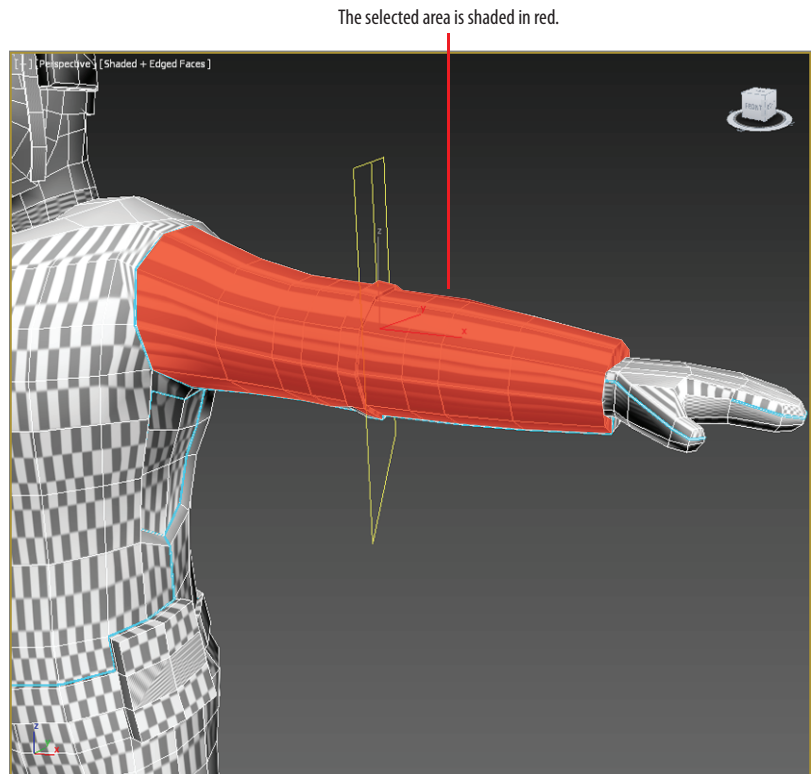

FIGURE 11.11 The arm's faces are selected.
1. With Polygon mode selected in your Unwrap UVW modifier and Point-To-Point Seams toggled off, click on a polygon on the left forearm of your model, and then in the Peel rollout, click the Expand Polygon Selection To Seams icon (). This will select all the faces that were included when creating seams for the arm, as shown in Figure 11.11.